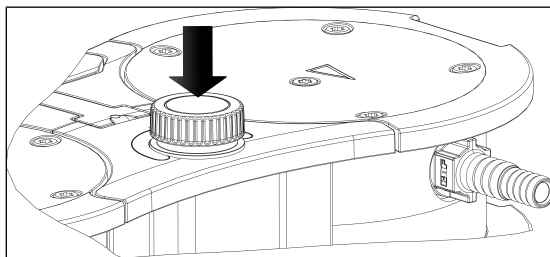

Fig. 5: Switching the pump on and off with rotary/push knob
- Switch on the pump by pushing the rotary/push knob (see Fig. 5).